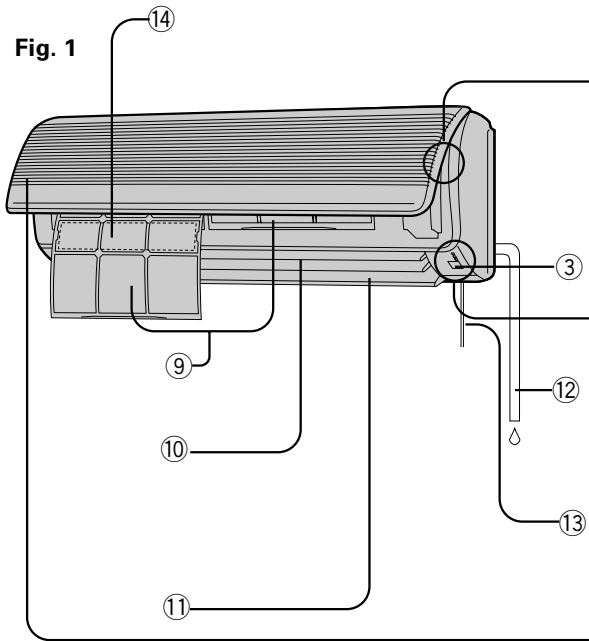
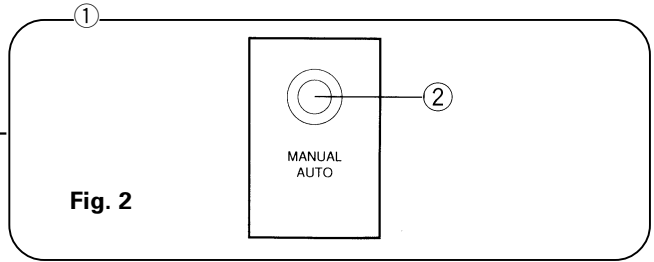
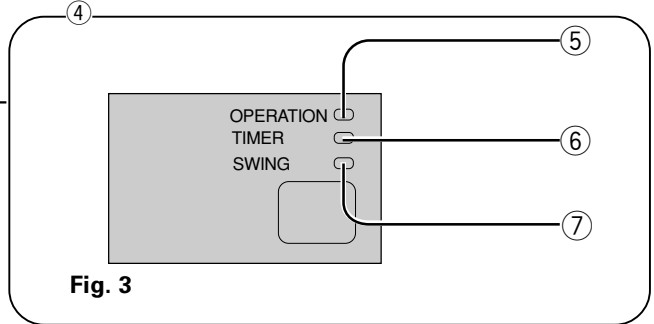

Fig. 2
Fig. 3
Fig. 4
- ① **Operating Control Panel (Fig. 2)**
- ② **MANUAL AUTO button**
- ③ **Remote Control Signal Receiver**
- ④ **Indicator Lamps (Fig. 3)**
- ⑤ **OPERATION Indicator Lamp (red)**
- ⑥ **TIMER Indicator Lamp (green)**
- ⑦ **SWING Indicator Lamp (orange)**
- ⑧ **Intake Grille (Fig. 4)**
- ⑨ **Air Filter**
- ⑩ **Air Flow Direction Louver**
- ⑪ **Right-Left Louvers**